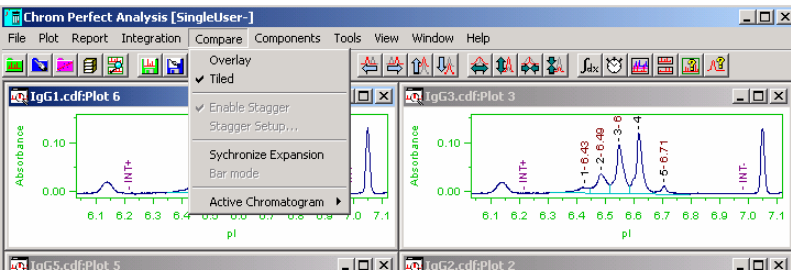

Figure A-48: Tiled (Display) Mode
- In Figure A-47, click **Compare** and select **Overlay** to change the display mode from **Tiled** to **Overlay**, as shown in Figure A-48.